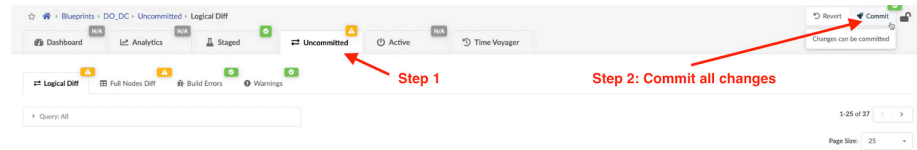

Figure 4.10 Committing Configuration Changes to the Blueprint
The yellow warning triangle on the uncommitted tab (See Figure 4.10) informs the user that there is staged configuration waiting to be committed.
Step 1. Go to the Uncommitted tab at the top. See Figure 4.10.